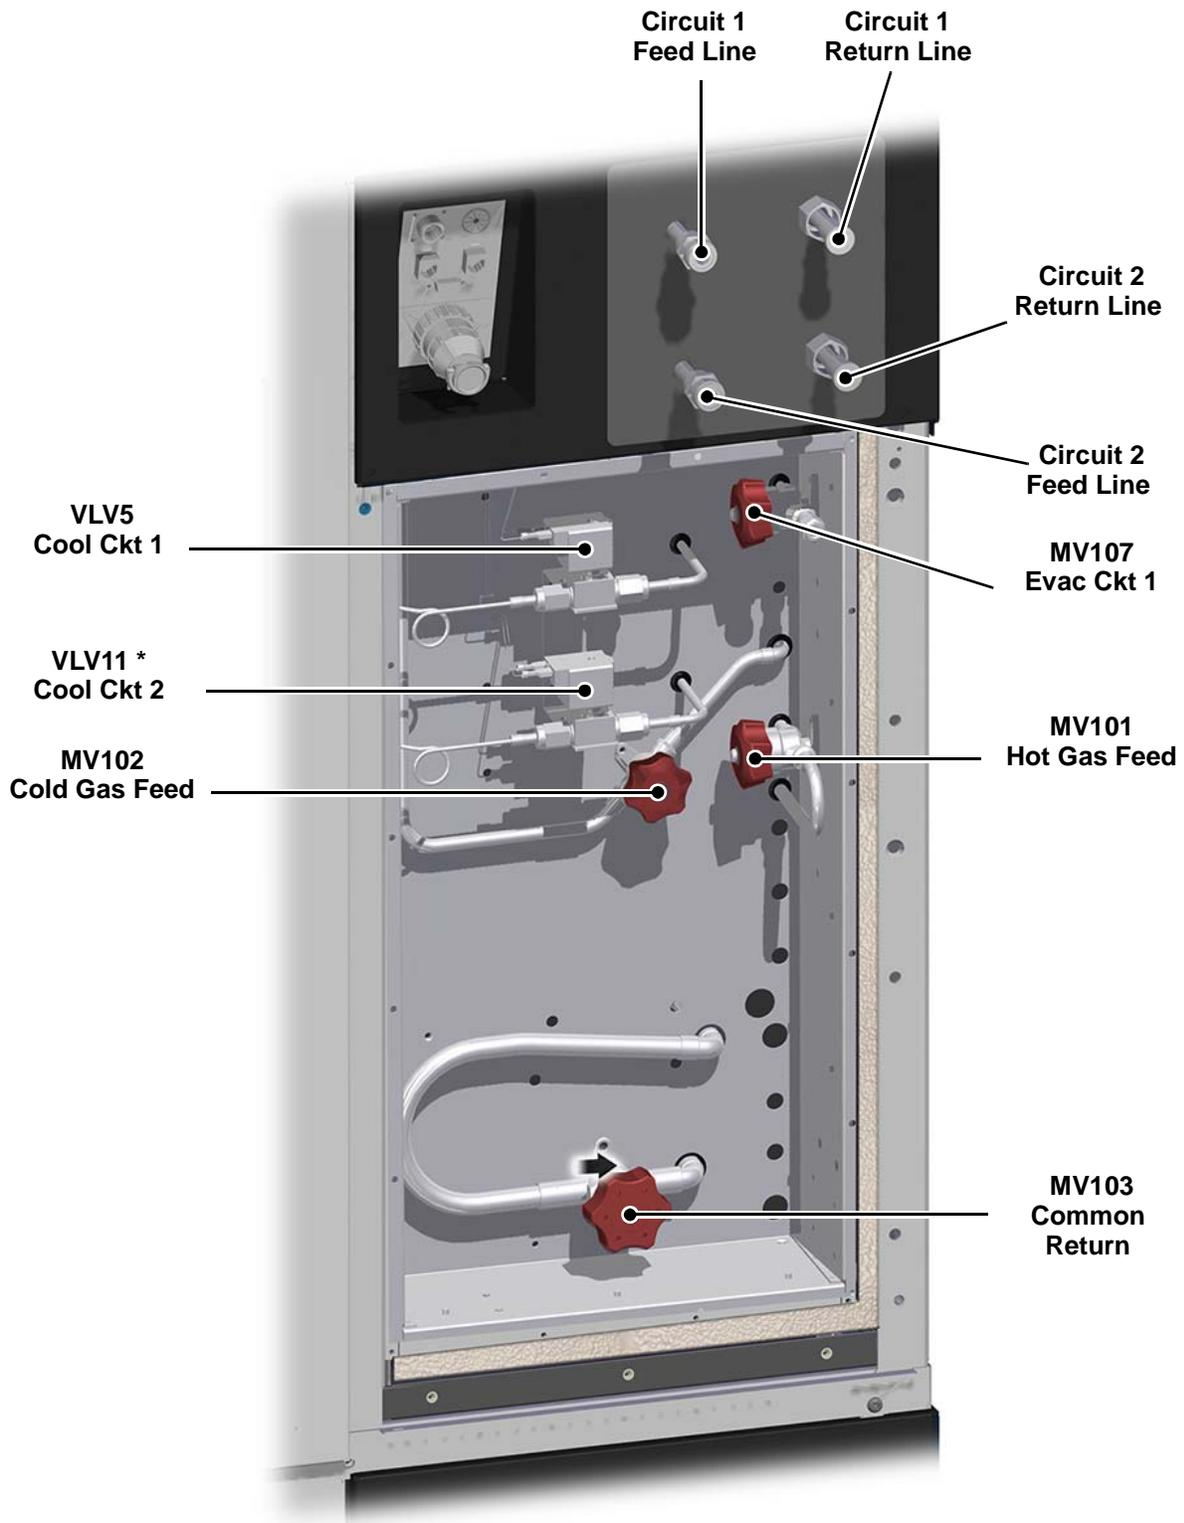

Figure 4-31: Illustration of Cold Valve Box with Valve Names
2. Perform the following tasks before opening the isolation valves on the refrigeration unit: Refer to Figure 4-31
4. Locate the valves labeled as follows: See Figure 4-31.